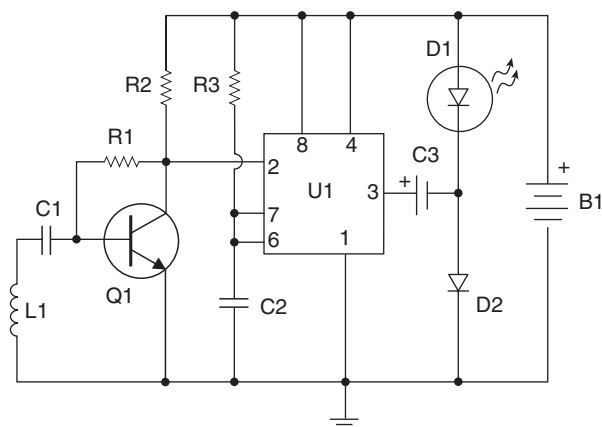

Figure 13-1 *Silent Cellular Phone Ringer (Courtesy Redcircuits.com)*
The heart of the Silent Cell Phone Ringer circuit is the integrated circuit (IC) at U1, which is shown in Figure 13-1.